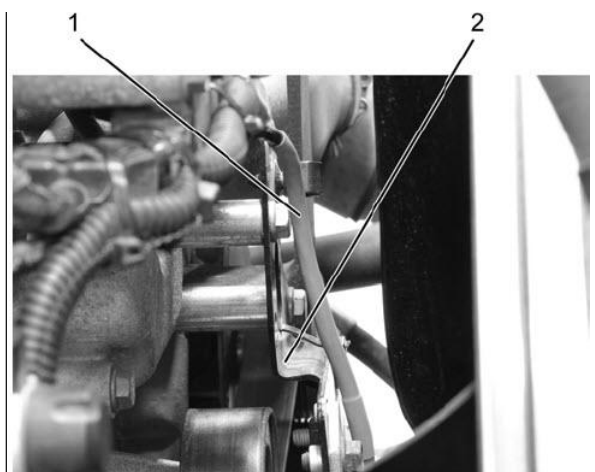

Figure 4. Fan Clutch Harness with Heat Shrink
12. Install self-sealing dual wall heat shrink on damaged or repaired area of harness (Figure 4, Item 1).